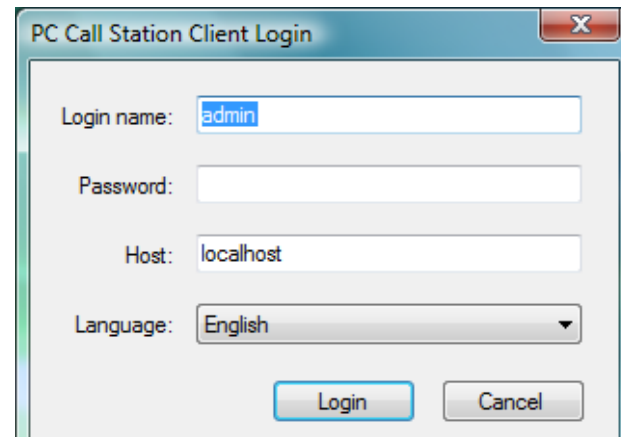

figure 60.1: PC Call Station Client Login
- 2 Click *PC Call Station Client*. A screen similar to the one in figure 60.1 appears.